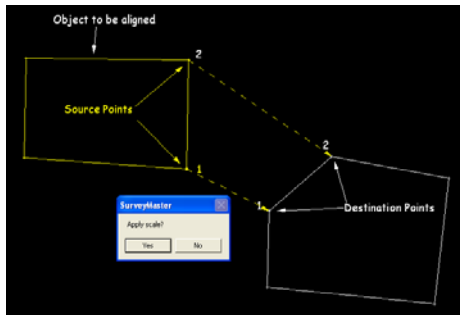

Figure 10-40. Scale Message
5. Select the second source and destination point, as prompted. A confirmation message displays (Figure 10-40).